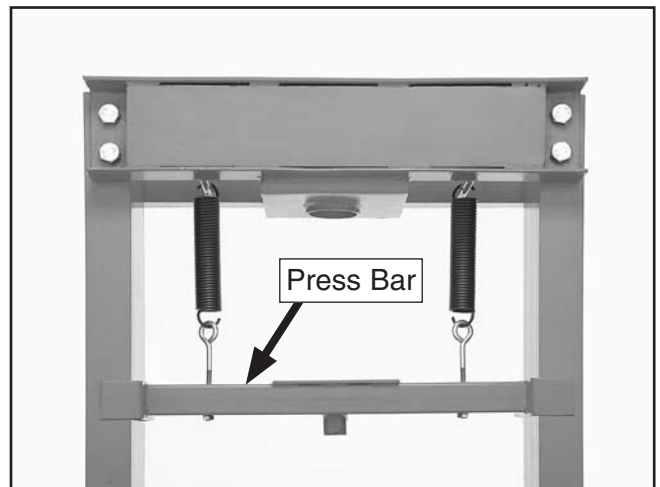

Figure 10. Press bar installation.
- Position the press bar between the two U-beams and fasten it to the ends of the eye bolts, as shown in **Figure 10**. Make sure to only thread the hex nuts just far enough onto the eye bolts so the end of the eye bolt slightly protrudes through the hex nut. The hex nuts will be fully adjusted later.